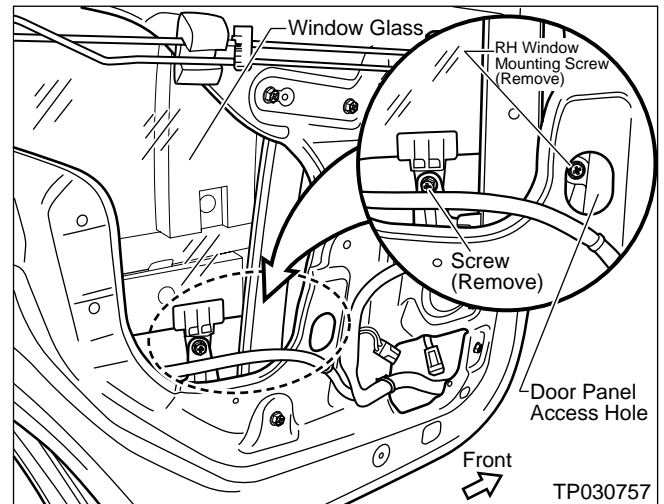

Figure 17
7. Temporarily re-connect the Door Handle/Switch Panel to the Vehicle Harness. Then adjust (up or down) the window until the RH Window Mounting Screw is visible in the Door Panel Access Hole (see Figure 17).
8. While holding onto the window, remove the Window Mounting Screws (see Figure 17).